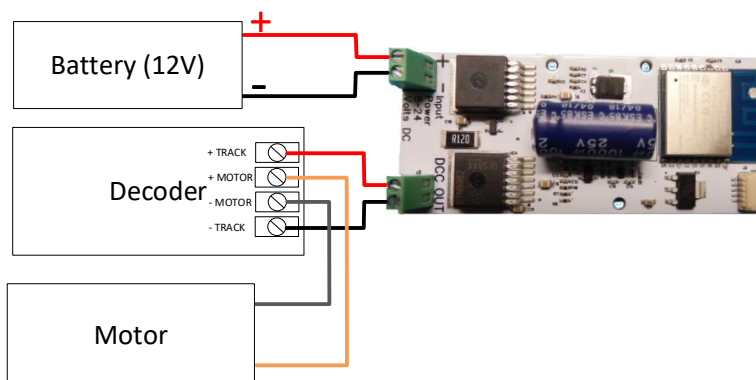

Figure 2 Connecting the WDMI-27 to your decoder and battery
Figure 2 shows how to connect the WDMI-27 to your locomotive and battery
- (1) The module is intended to receive power from a 12-volt battery when mounted in a large-scale locomotive. It is not fitted with a rectifier so its Input Power terminals must not be connected to the track since if the loco is turned around, power would be reversed!
- (2) Connect the DCC-Out connections to the +Track and – Track (Track Right, Track Left) inputs to your decoder as shown in Figure 2. These are the decoder connections that would normally be connected to the track. Now, the WDMI-27 acts in place of the pickups from the track.
- (3) Connect the +Motor and -Motor outputs from your decoder to the connections on the locomotive motor in the usual way.
- (4) Connect the function outputs and speaker if applicable according to the instructions supplied with your decoder.
- (5) Connect the WDMI-27 power input + and – terminals to your 12 V battery. **Take great care to connect these correctly. The protection should prevent damage if they are connected the wrong way around but it's better not to rely on it!**
- (6) Mount the unit suitably in your locomotive. Be sure that no part of the unit is touching any metal part of the locomotive.